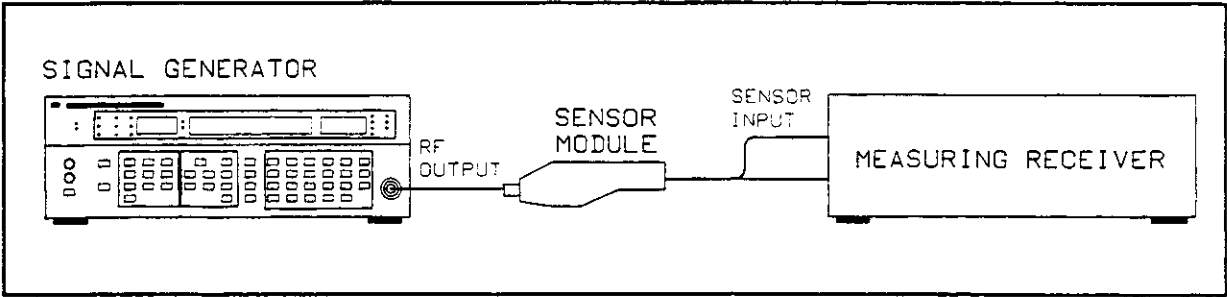

Figure 4-8. Output Level Accuracy and Flatness Test Setup
- 2. Connect the sensor module to the Signal Generator as shown in Figure 4-8.